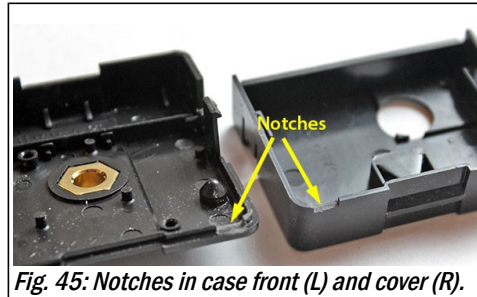

Fig. 45: Notches in case front (L) and cover (R).
- ☐ ☐ Cut a matching slot in the top side of the case cover (near the corner farthest from the large hole for the time-setting knob). Fig. 45 shows the notch in the case and the matching notch in the cover, which is flipped over to the right. Refer to Fig. 28 on page 38 for a front view of the